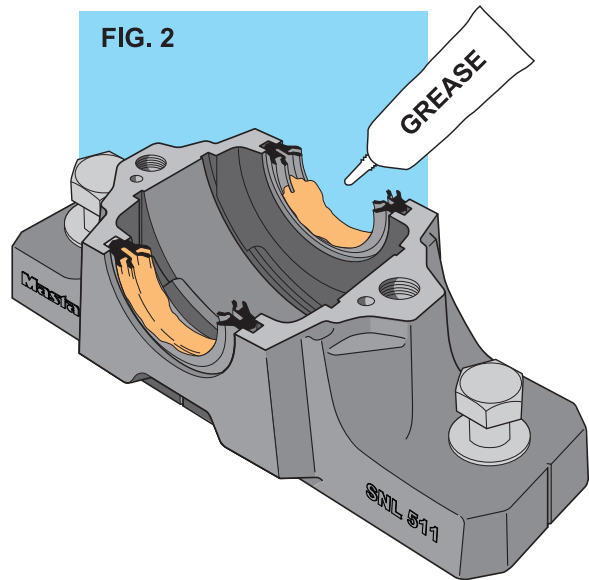

FIG. 2
7. Take half ring of four lip seal TL and insert this half ring in the grooves of each side of bottom housing one by one. Fill the space between lips sealing grooved area inside seal with grease. FIG 2
7. Insert one V seal (TA) with rubber lined metallic sealing washer (plate) on the shaft. Ensure that V seal is kept away from bearing, and its lip should points inward touching metallic sealing washer. The metallic seal washer should be inserted in the groove of housing base. FIG 2
8. Bearing is then mounted on the shaft at proper location. Fill complete bearing with grease of appropriate grade and quantity. Put recommended quantity of grease in the housing base at the sides, refer Table I. FIG 2.
9. Insert the second rubber lined metallic sealing washer (plate) and V ring seal on the shaft at the other side of the bearing following same steps at other side of housing. FIG 2.
10. Mount the second bearing and housing at other end of the shaft with similar steps as mentioned above. FIG. 2 Prior to mounting second bearing on shaft, ensure to mount the driving Component on the shaft at suitable location, placing the component in between two housings.
7. Insert rubber O cord in the groove of the housing base at both ends. FIG 2